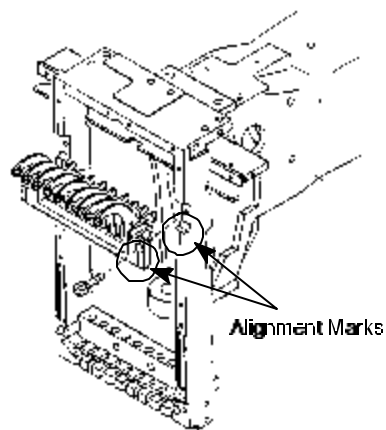

Figure 6
12. **Adjust** Take-Up Lever Assembly Alignment Marks to Slide Block Alignment Marks. See *Figure 6*.